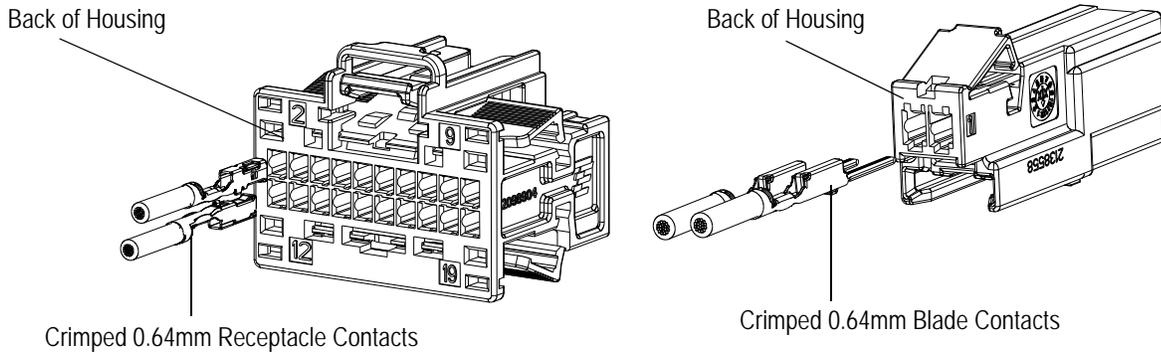

Figure 3
2. The terminated contact must be aligned with the contact cavity at the wire end of the connector and oriented as shown. The contact orientation feature faces away from the secondary locks. See Figure 3. Terminals will only easily go into cavity in one orientation.